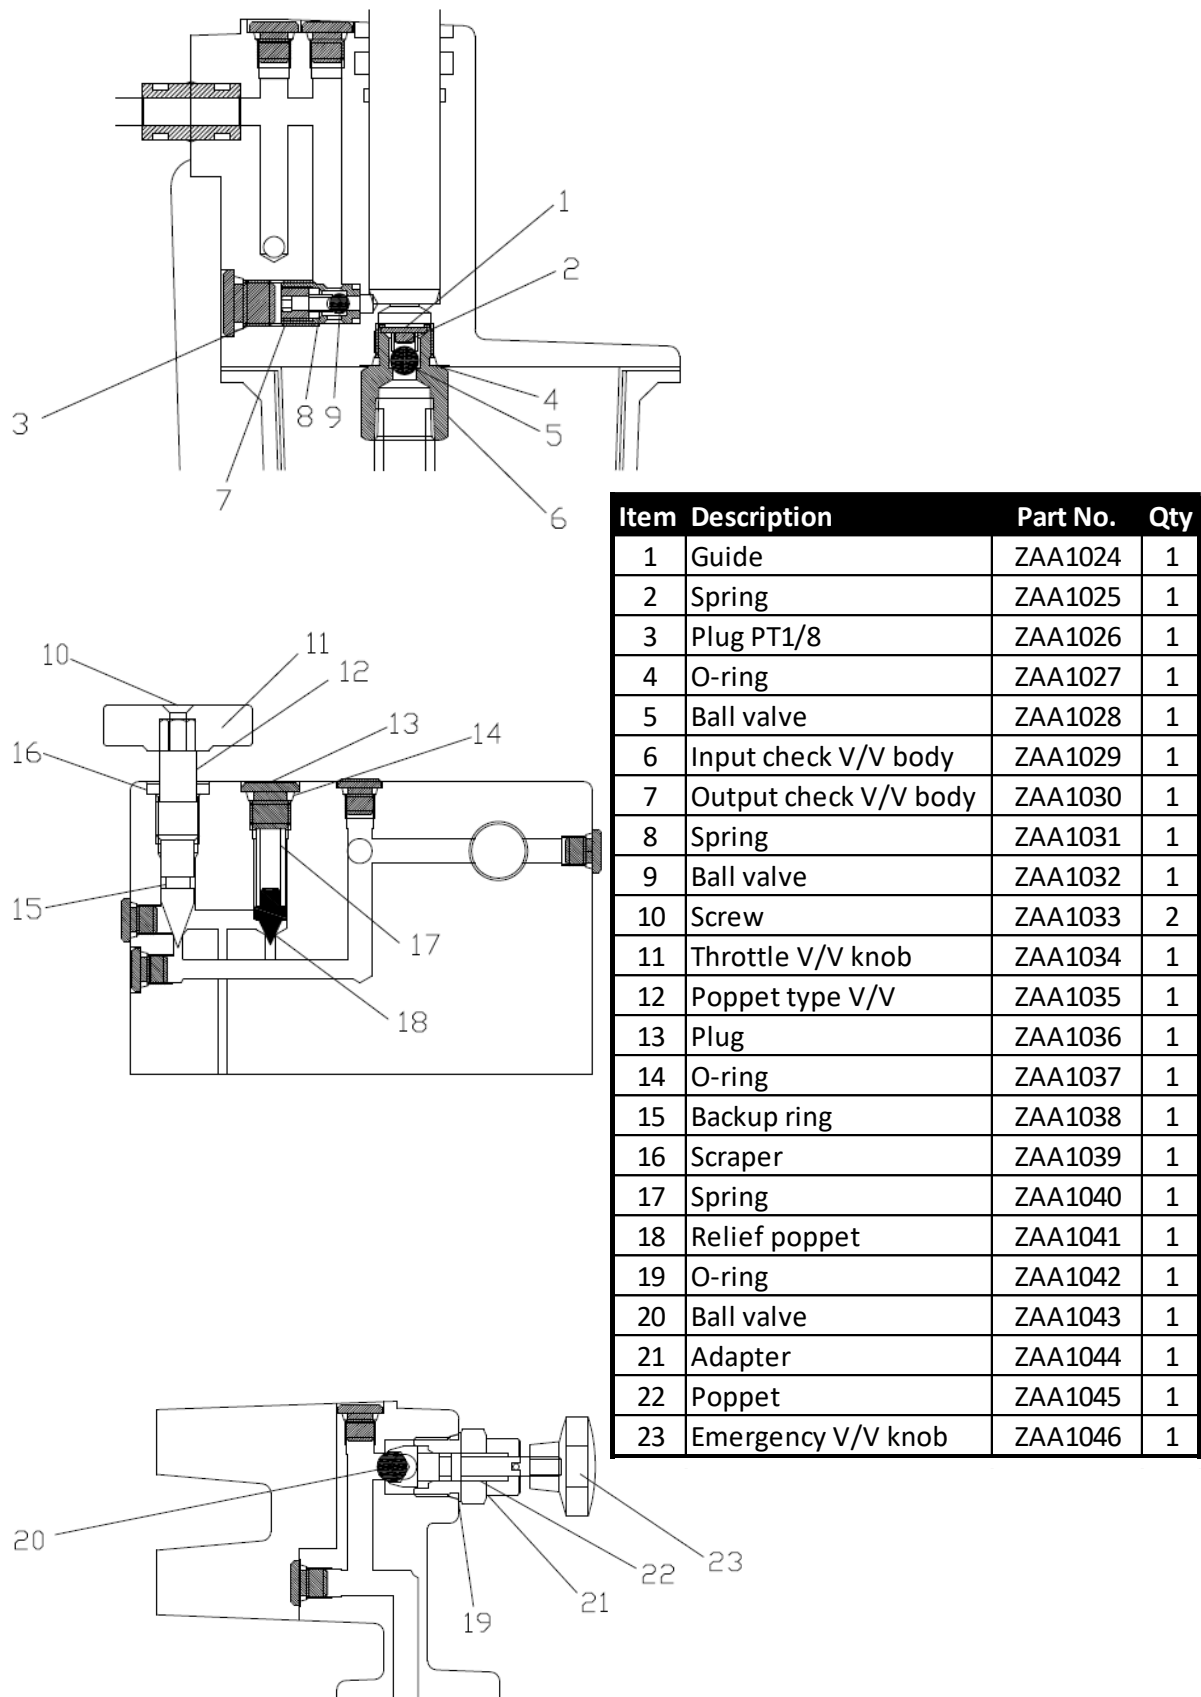

Figure 3
- 5.1.1 Close the throttle valve (#11 Fig. 3) and the emergency valve (#23 Fig. 3).
- 5.2.1 Open the throttle valve (#11 Fig. 3) by turning it in a counterclockwise direction. **Do NOT** open the valve knob more than two full turns. The lowering speed can be controlled by slightly opening the valve knob.
5.2.2 Open the Quick Release/emergency valve (Fig. 1 or #23 Fig. 3) by pulling and turning, counterclockwise up to 90°. This will start the jack retraction. Release when retraction is complete.
Emergency valve (#23 Fig. 3) is not fully closed	<ul style="list-style-type: none"> • Pull and turn it to the closed position
Relief valve poppet (#18 Fig. 3) is not seating properly	<ul style="list-style-type: none"> • Remove relief valve plug (#13 Fig. 3) and check poppet • Flush and clean the relief valve plug seat and replace the poppet